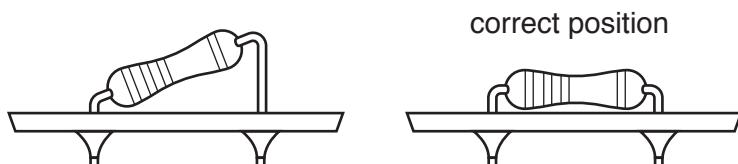

Fig. 15
- (iii) Fig. 15 shows a resistor that has slipped out of position while being soldered into a PCB.